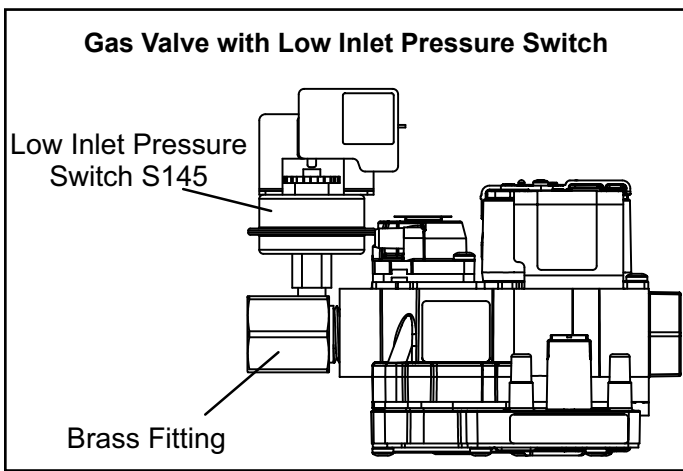

Figure 2
11. Thread provided brass fitting to gas valve inlet until hand tight. Using properly sized wrench, tighten fitting 2 to 3 full turns being careful to position the side port to allow clearance for the pressure switch and harness. See figure 2.
**NOTE** - Some installations may require the pressure switch and fitting assembly to be positioned differently than shown in figure 2.